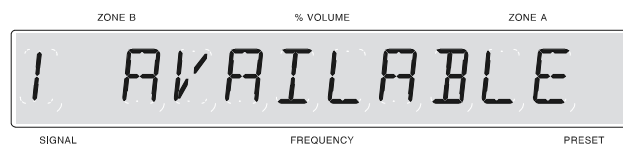

Figure 28
2. Momentarily press and release the front panel ENTER pushbutton. The ENTER pushbutton LED will turn on and the front panel display will indicate 1 AVAILABLE, which is the first of 9 preset numbers that can be assigned. Refer to figure 28.